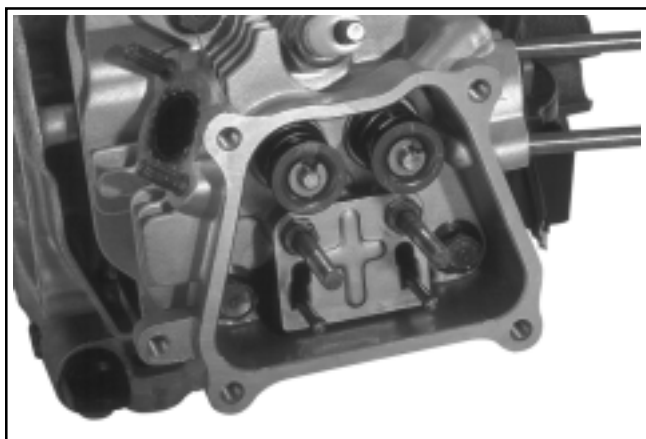

Figure 11-69. CS4, CS6, CS8.5 (spec. 95xxxx).
2. **CS4, CS6, CS8.5 (spec. 95xxxx):** Install the push rod guide plate, aligning the holes for the rocker arm studs. Screw in the rocker arm studs and torque to **10 N·m (88.5 in. lb.)**. See Figure 11-69.